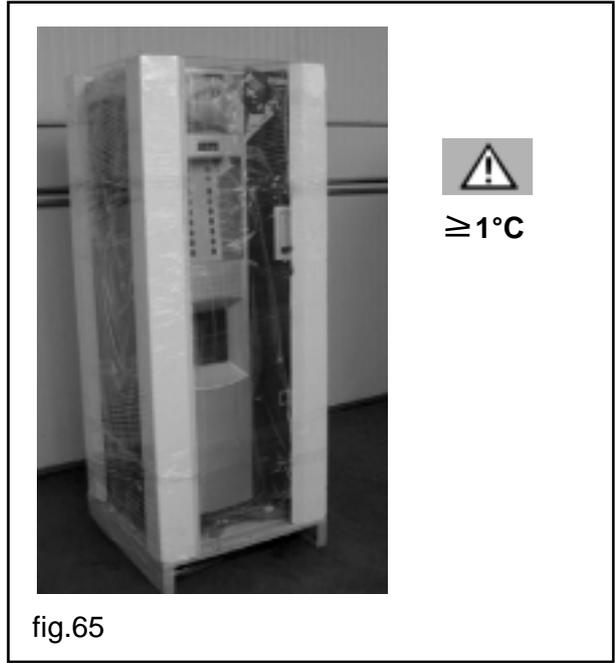

fig.65
- protect the outside of the machine with plastic film or a bag (fig.65)